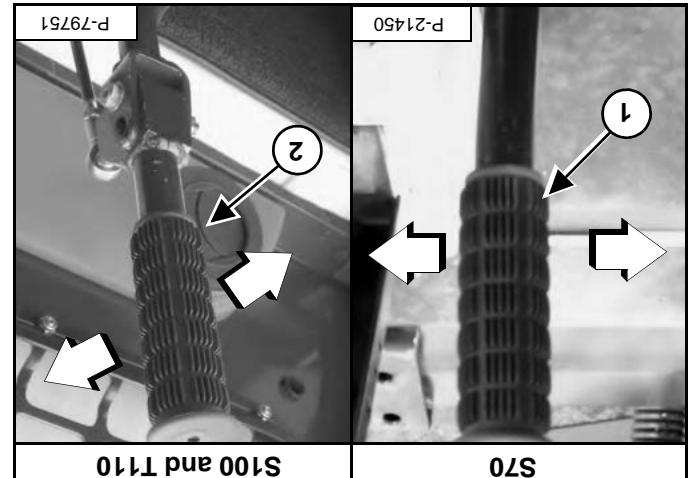

Figure 37
For anticlockwise rotation, move the right steering lever (item 1) or the right steering lever handle (item 2) [Figure 37] to the left.
To stop rotation, move the right steering lever (item 1) or the right steering lever handle (item 2) [Figure 37] to the centre position.
For continuous clockwise rotation, move the right steering lever (item 1) or right steering handle (item 2) [Figure 37] fully to the right.
To start clockwise rotation, move the right steering lever (item 1) or the right steering lever handle (item 2) [Figure 37] to the right.
**NOTE:** Remove the auxiliary control lockout bolt and nut before using the auxiliary control for the first time [Figure 37]. See the loader's first time [Figure 37] for correct nut sequence.